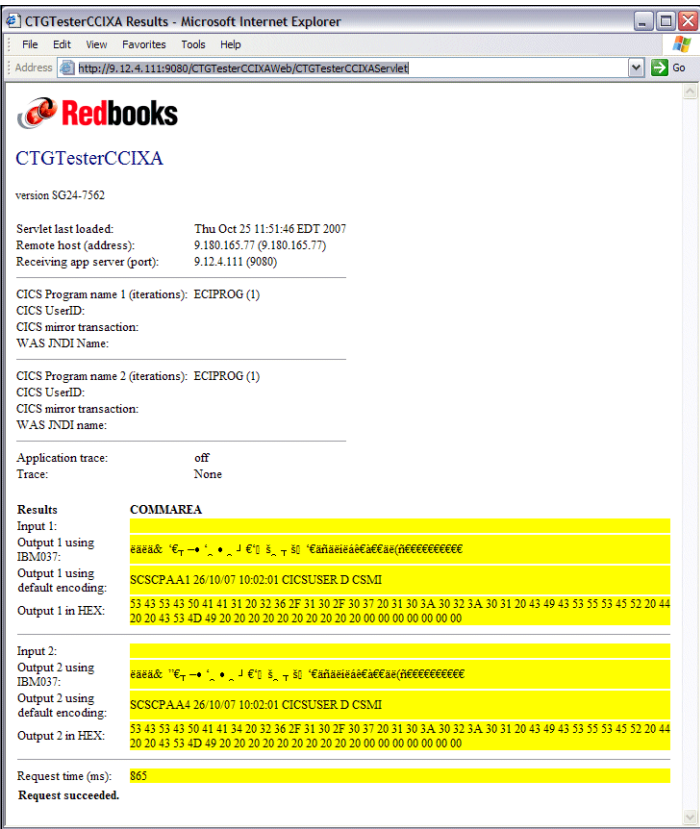

Figure A-3 CTGTesterCCIXA results page
- The servlet forwards to a JSP™, which displays the response to the user, as shown in Figure A-3.